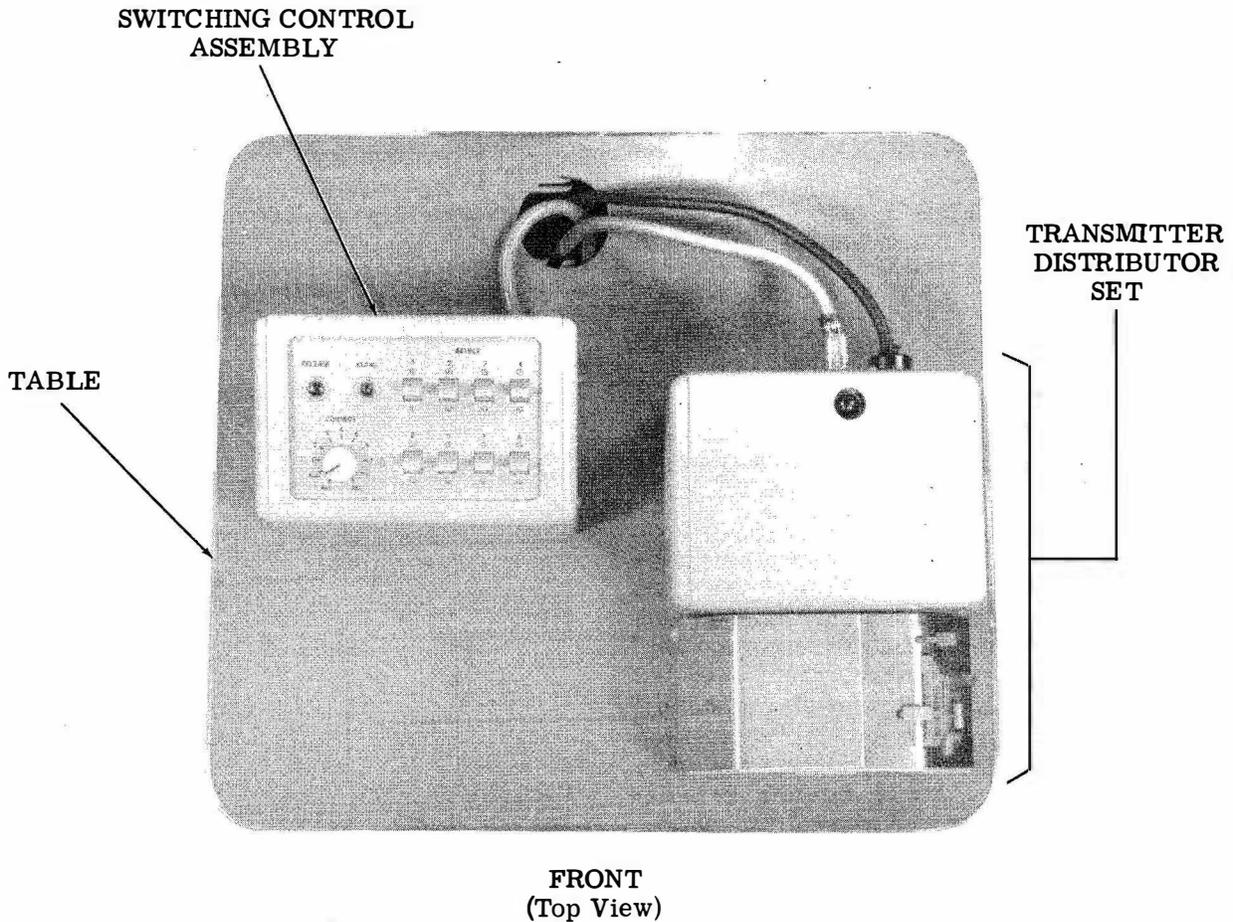

Figure 2 - Manual Message Address Segregator
(Figure 2). Selection of the reperforators that are to receive from the segregator is made by operation of a control assembly SELECT lever (lighted) for each reperforator. Selection of the dc loop with its associated reperforator that is to receive a specific address is made by operation of the control assembly rotary CONNECT switch.
2.05 All line (loop) switching and reperforator selection is accomplished manually by means of the TP329324 switching control assembly. The SELECT levers that are operated to select a reperforator are also illuminated (Figure 2).
2.07 The table top supports the switching control assembly and the transmitter distributor, both of which may be positioned for convenience by the operator (Figure 2).